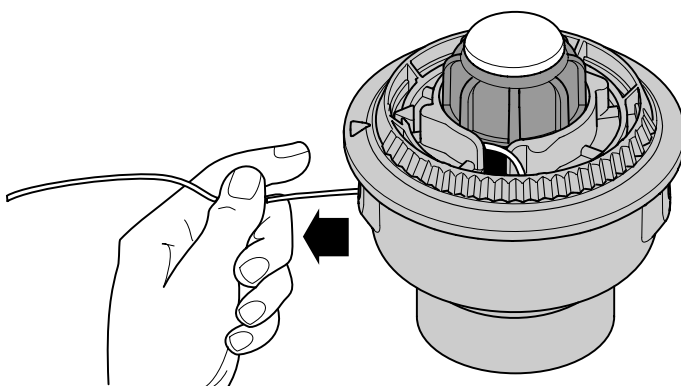

Figure 18
6. Pull the line from the outer spool until the line is tight against the inner reel. See Figure 18.